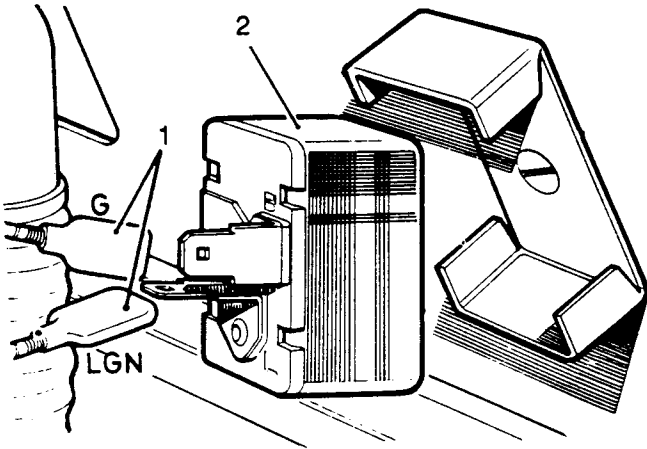

Fig O5.15
- (3) Refer to Fig O5.15. Disconnect the two leads (1) from the flasher unit.
- (4) Pull the flasher unit (2) forward out of its clip.